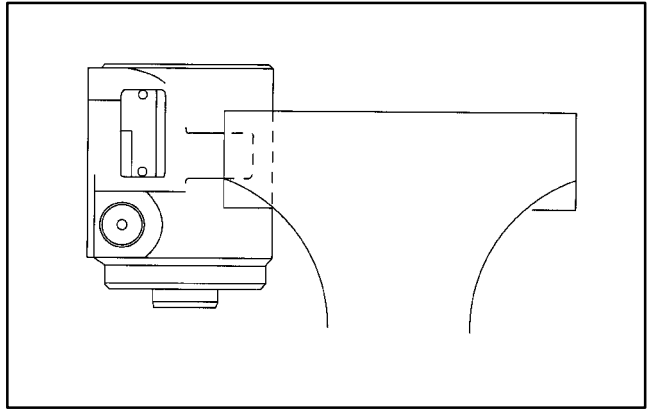

Figure 138
10. Clamp the housing in a vise (Fig. 138). Use just enough clamping force to hold the housing securely.